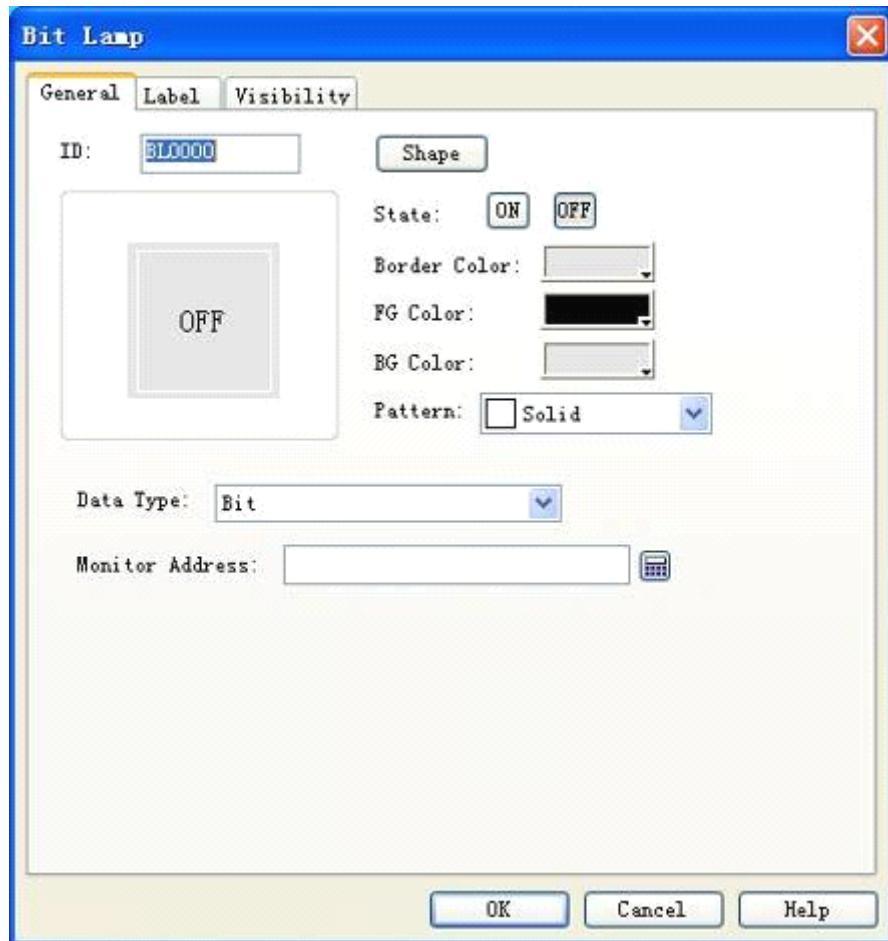

Figure 4-65: Bit Lamp dialog
1. Choose the Bit Lamp button icon in the tool bar, and then a dialog as shown in Figure 4-65 will appear.